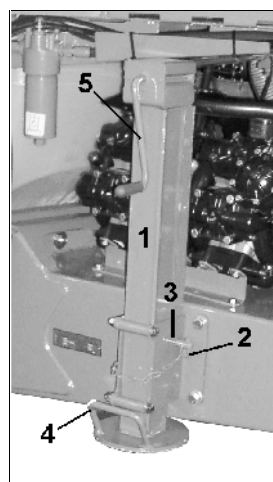

Fig. 41
- Jack raised during operation or transport (Fig. 41).
1. Slacken the lynch pin (Fig. 41/2).
2. Pull out the pin (Fig. 41/3).
3. Use the handles (Fig. 41/4) to lift / lower the jack.
5. Use the hand crank (Fig. 41/5) to further lowering / lifting the jack.